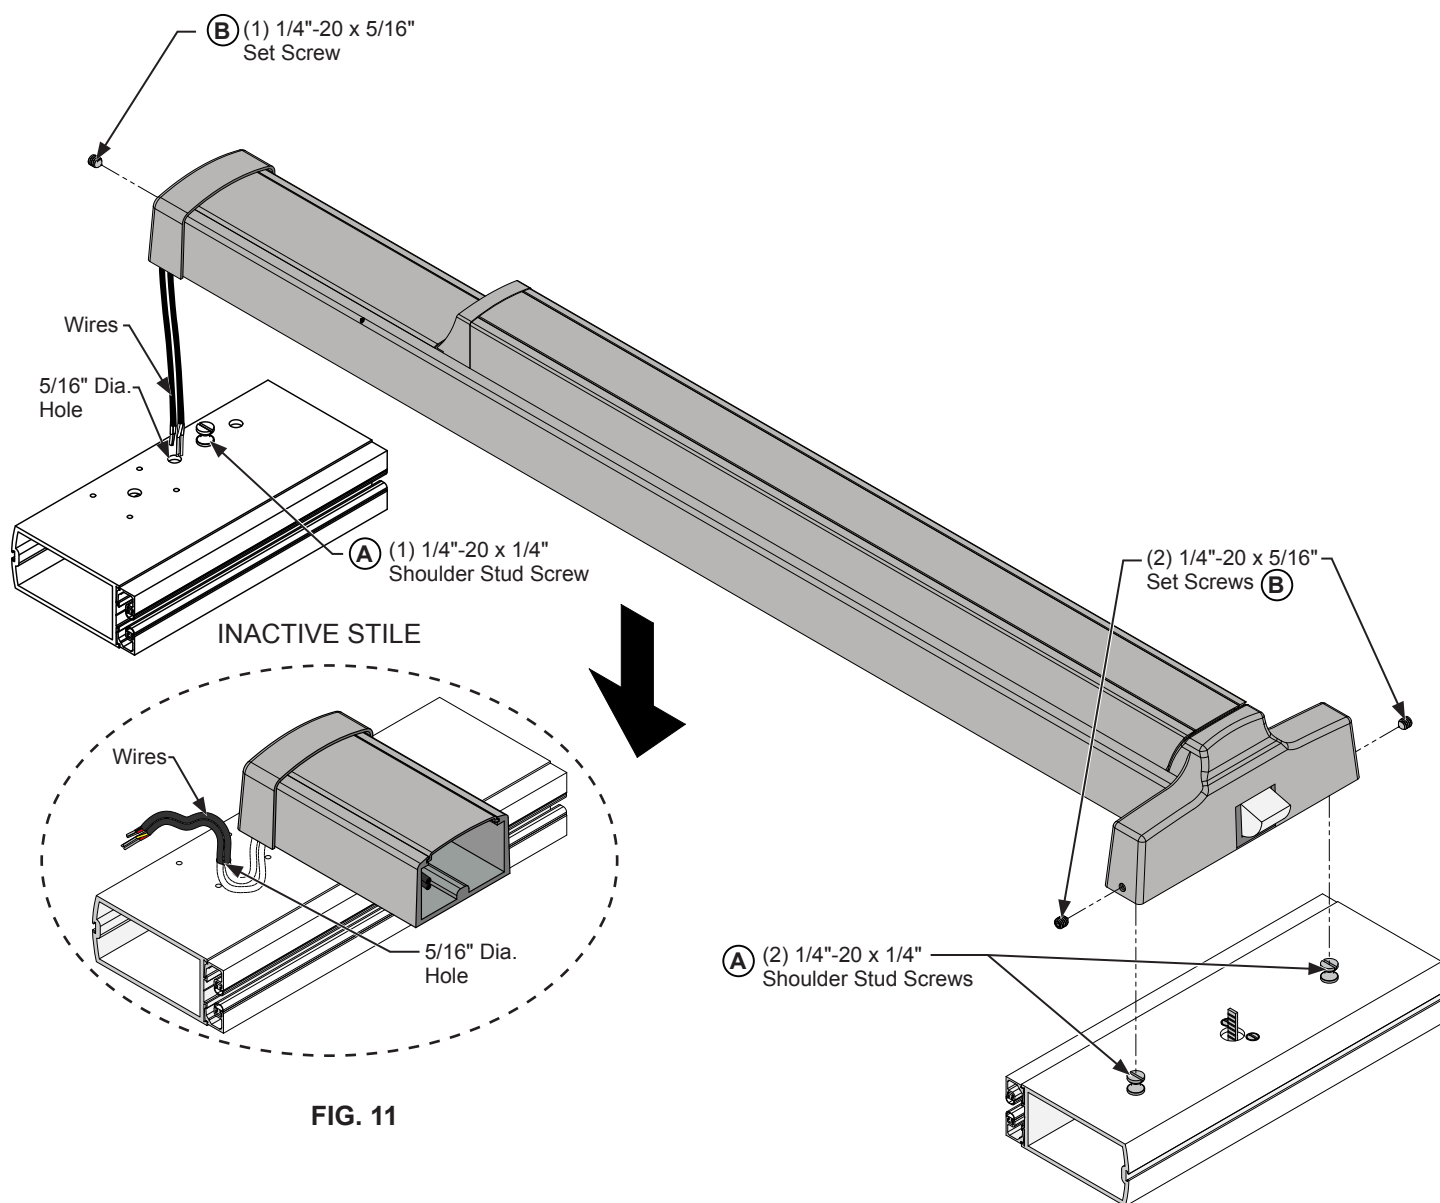

FIG. 10
2. Install the exit device on the door stiles as you feed the wires through the upper 5/16" hole. Tighten the (B) (1) 1/4" x 5/16" set screw and (B) (2) 1/4" x 5/16" set screw on each side of the door stiles. (Fig. 10)